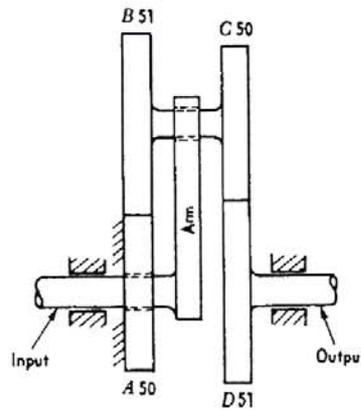

Fig. 4
4. Determine the speed ratio between the input and the output shafts of the gear train shown in Fig. 4, the numbers indicated in the figure are the number of teeth. (20%)